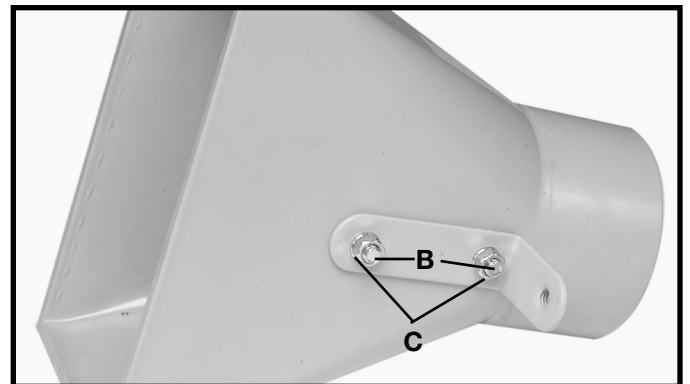

Fig. 12
6. Thread a 5/16-18" flange hex nut (C) Fig. 12 onto the bolt (B) and tighten securely.